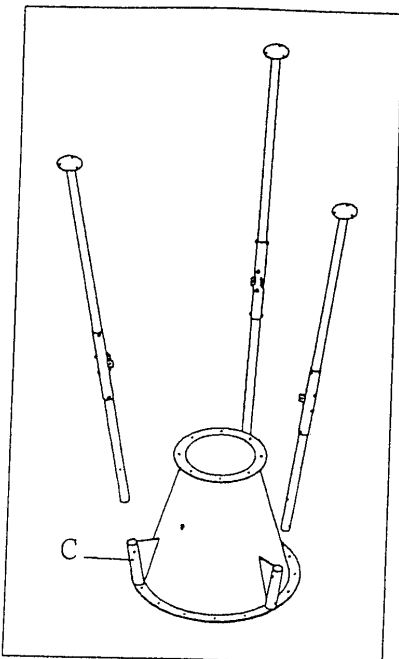

FIG. 2
Place the support frame upside down as illustrated in figure 2. Insert 3 pieces of supporting leg into Reducing Collector Support Frame (C) by using hex. head screw 5/16" x 1/2". Please see figure 2 and 3.